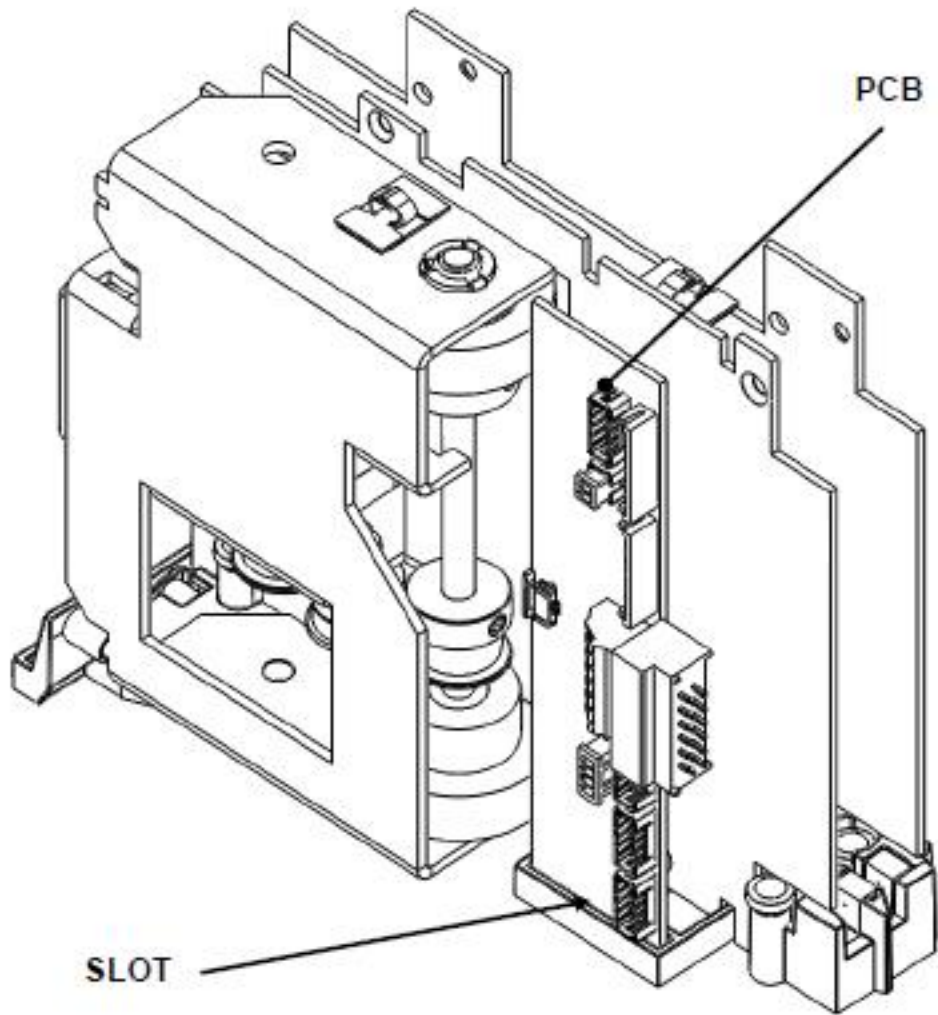

Figure I-4: Location of the Printed Circuit Board
The printed circuit board is located on the right hand guide as shown in Figure I-4.
4. Place the new board in the slot as shown in Figure I-4 and reconnect the cables.